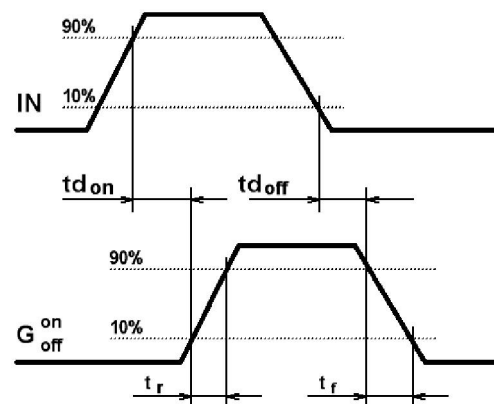

Figure 10 – Diagram explaining driver time parameters Where IN – input control signal; G – signal of controlled transistor gate
**MCR1, MCR2** – connection outputs of timing turn-off delay capacitance of corresponding controlled transistor at current overload. Protection operation delay is necessary to avoid malfunction of short-time inductive kicks. Thereby this delay duration will be equal to “rerun pulse” duration when an emergency. To increase protection operation delay it is recommended to install the capacitors with nominal showed at Figure 10. If delay increase is not required this output should be disconnected; it is not recommended to connect it with “ground” output.